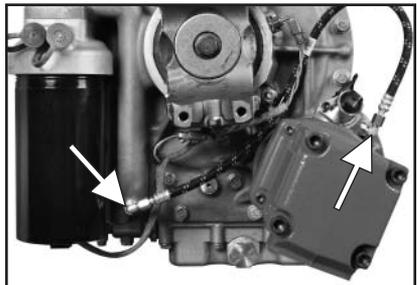

Fig. 7
8. Install the 90° elbow in the transmission pressure port as shown. Connect hose to the transmission port as shown. Connect other end of hose to the P.T.O. 90° elbow located near the P.T.O. solenoid. (Fig. 7)